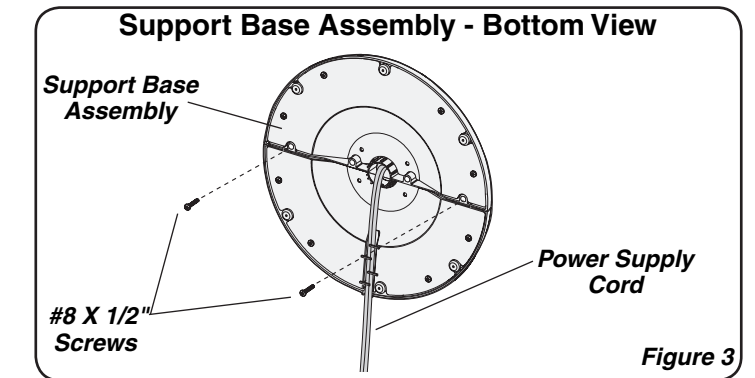

Figure 3
5. Secure the (2) **#8 X 1/2" Screws** into the two holes in the bottom of the base. (**Figure 3**)